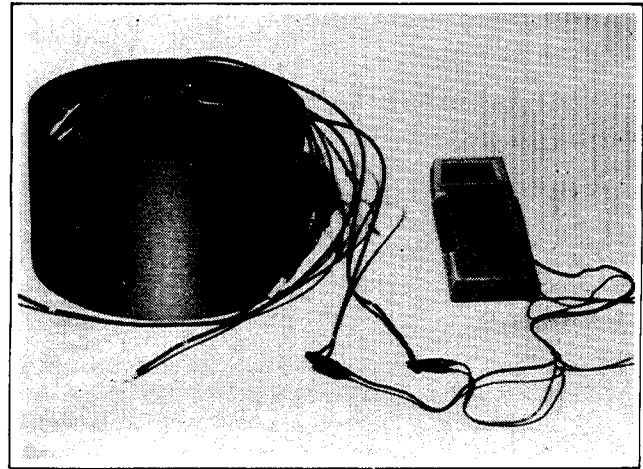

Figure 7-3. Checking Stator Continuity
1. To check stator continuity, set ohmmeter on R x 1 scale (Figure 7-3). Contact red and black meter leads; adjust meter to zero ohms. Check stator continuity, connect-